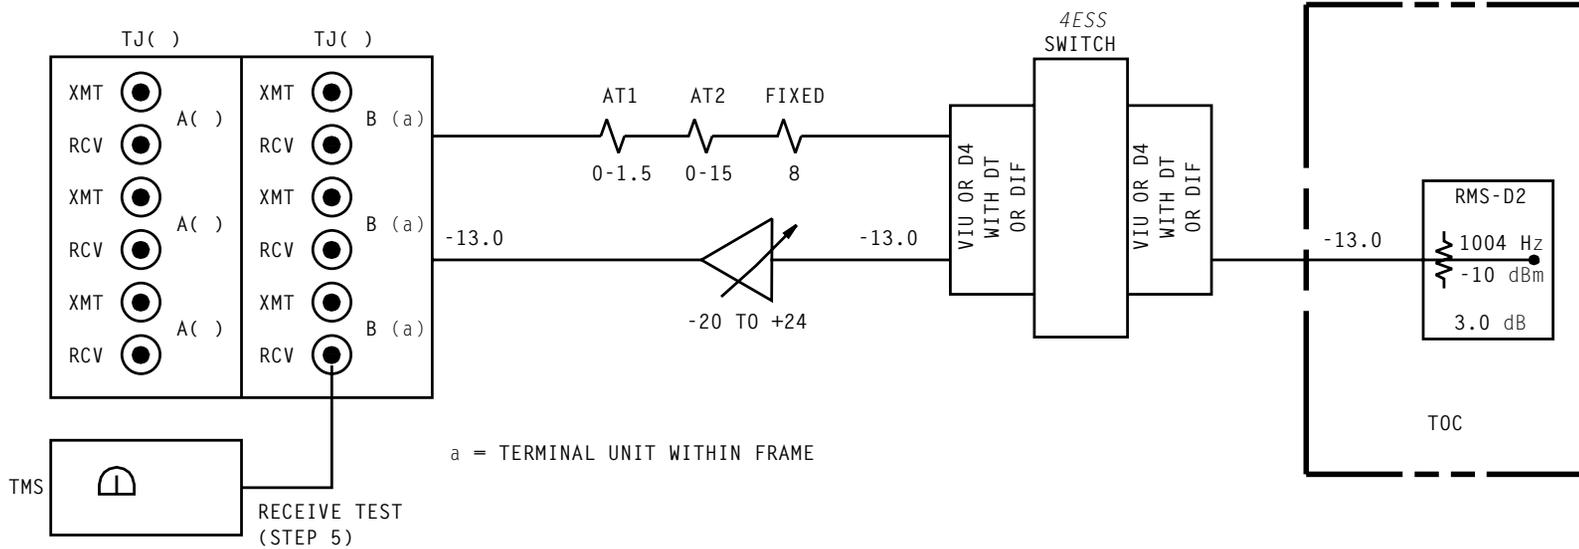
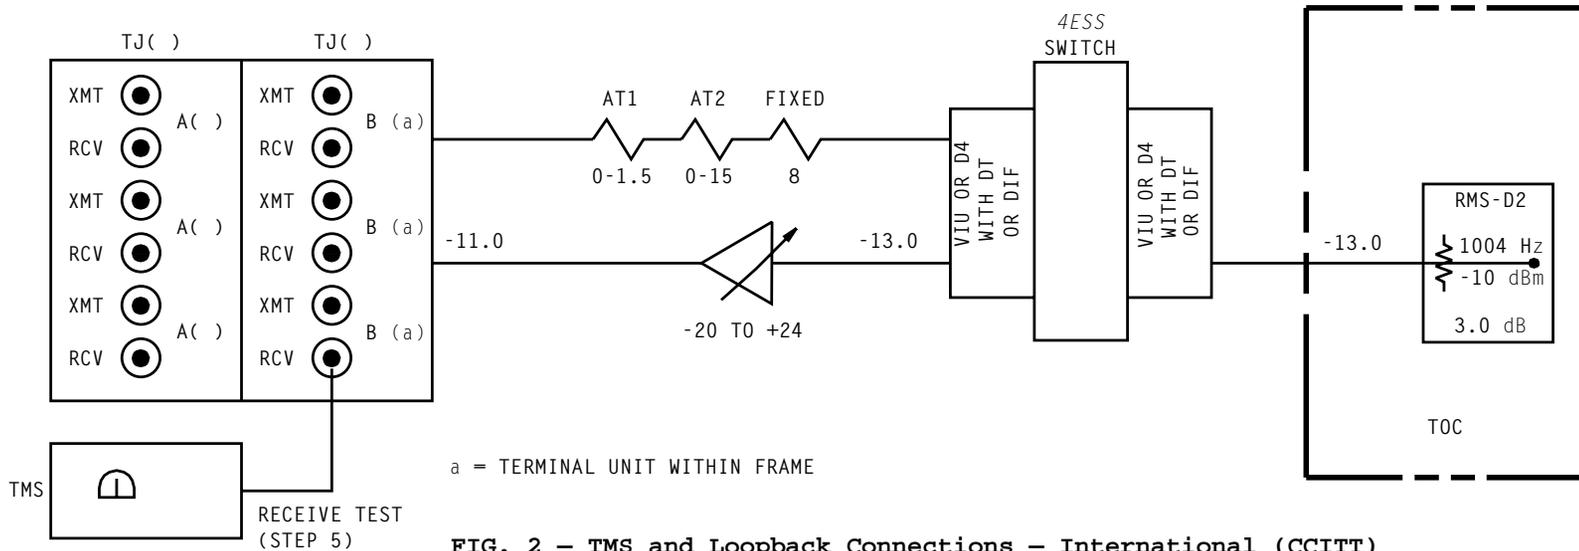

FIG. 1 - TMS and Loopback Connections - Domestic
FIG. 2 - TMS and Loopback Connections - International (CCITT)
- [5] On facility test panel at location 27-37, connect transmission measuring set (TMS) [600 ohm terminated] to **RCV-B** (a) (a = terminal to be adjusted) test jack [FIG. 1, Page 2, for domestic, FIG. 2 for international]